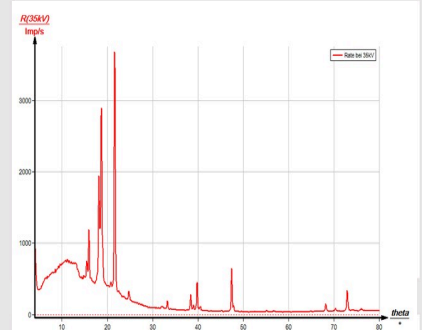

Fig. 9: X-ray spectrum of tungsten
Figure 9 shows the X-ray spectrum of tungsten that was analysed with a LiF monocrystal. Well-defined lines are superimposed on the continuous bremsstrahlung spectrum. The glancing angles of these lines are unaffected by the anode voltage. This identifies them as characteristic X-ray lines. The evaluation (see the table) shows that there are only first-order lines in the angular range of  $10^\circ < \theta < 30^\circ$ . They reach the highest intensity level. The range of  $30^\circ < \theta < 80^\circ$  includes the lines with  $n = 2$  and  $n = 3$ . The separation of lines number 2 and 10 into  $\alpha_1$  and  $\alpha_2$  or  $\gamma_2$  and  $\gamma_3$  can only be observed in the range with  $n = 2$ . Line number 11 can be clearly assigned to the  $K_\alpha$  line of copper. The small circular tungsten anode is actually embedded in a cylindrical copper rod that is also partly hit by the electrons.
Column B of the table shows the glancing angles  $\theta$  that were determined with the aid of Figure 9 and also the energy values for the characteristic X-ray lines of tungsten that were calculated with the aid of equation (4). The wavelength  $\lambda$  and the corresponding energies  $E_{\text{exp}}$  that were calculated with (1) and (3) are shown in columns D and E. Column H shows the energy values  $E_{\text{lit}}$  that were calculated with the aid of Figure 8. The correspondence between the two energy values provides evidence concerning the assignment of the lines to the various transitions. As expected, there are only those lines that comply with the selection rules. It is not possible to discern all of the possible transition, since for some of them the intensity is too low.